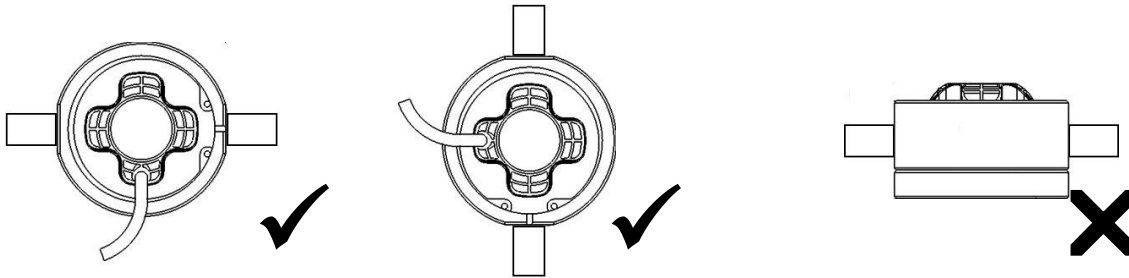

Figure 1 - Correct and Incorrect Mounting Orientations
2. The fuel flow sensor contains shafts on which the oval rotors spin. The fuel flow sensor must be mounted so that these rotor shafts are always in a horizontal plane (parallel with the ground or water surface). The rotor shafts are parallel to the screws attaching the sensor cap to the sensor base, so ensure that these screws are in a horizontal plane. Please refer to Figure 1 below for examples of correct and incorrect orientations.